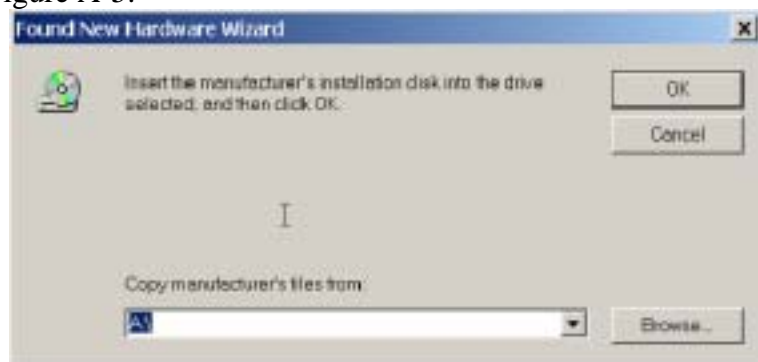

Figure A-5
5. Check on “CD-ROM drives” and click on Next. The system will prompt you to insert the manufacturer’s installation disk, as shown in the Figure A-5.